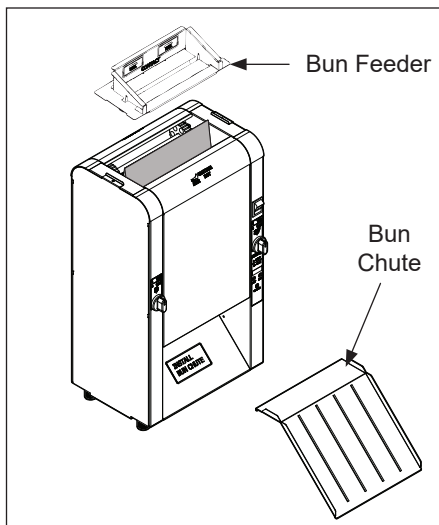

Figure 22. Bun Feeder and Bun Chute
2. Put on heat resistant gloves. Remove the Bun Feeder and Bun Chute (Figure 22). Set these items aside.